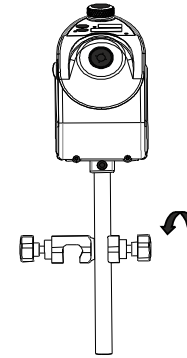

Figure 5
5. Put the bar in the right groove of the active block, use the adjust knob to fix them (refer to figure 5).